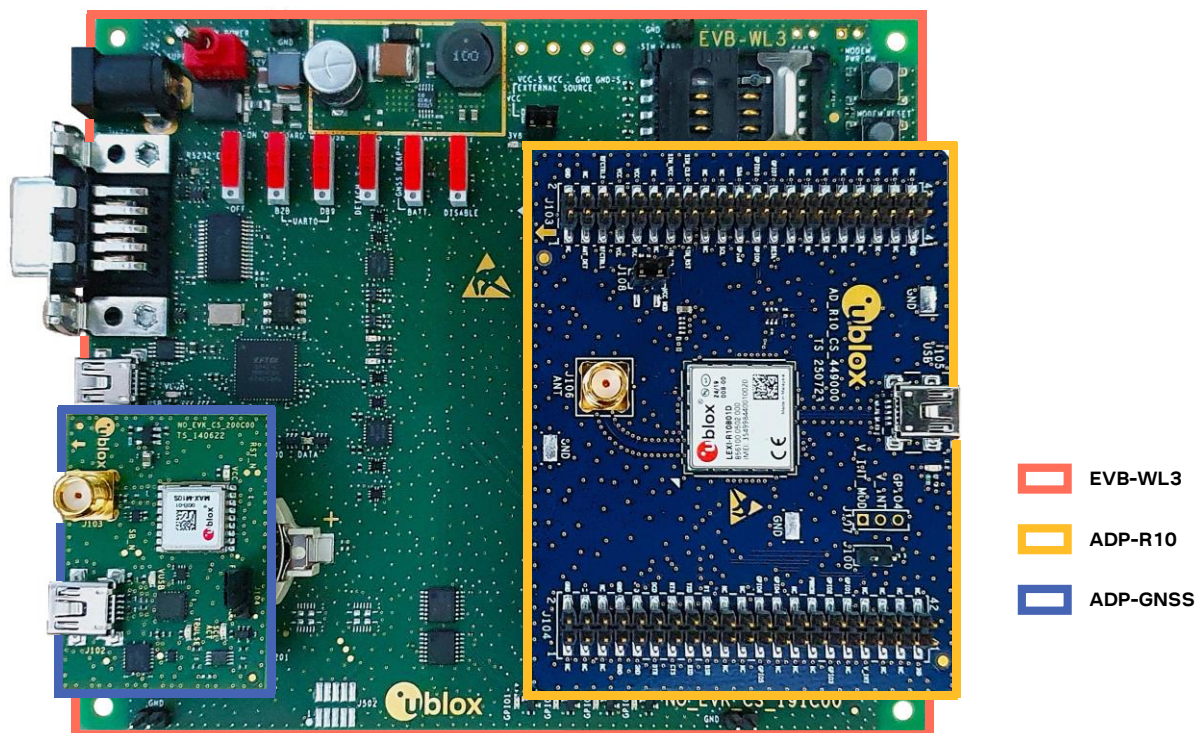
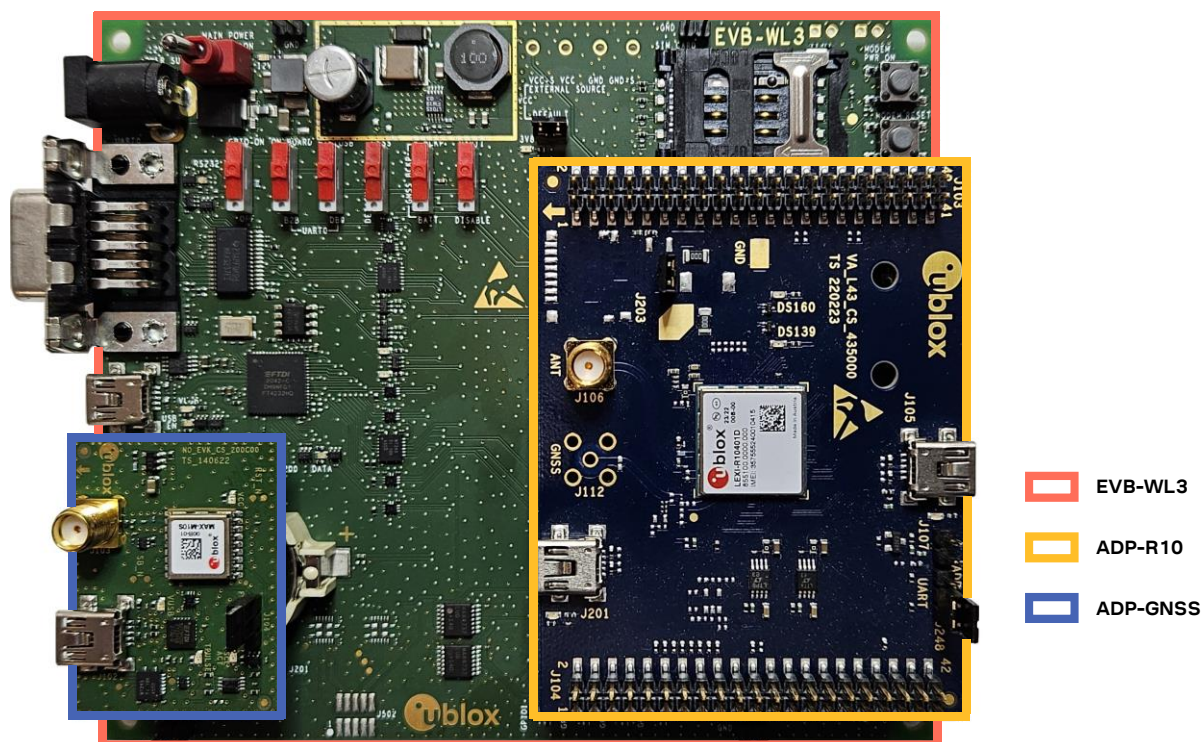

Figure 1: EVK-R10 evaluation kit “new” model, formed by three boards, with latest “new” version of the ADP-R10 board
Figure 2: EVK-R10 evaluation kit “old” model, formed by three boards, with previous “old” version of the ADP-R10 board
As shown in Figure 1 and in Figure 2, the EVK-R10 evaluation kits are formed by three boards:
- The latest “new” version of the cellular adapter board, marked “AD\_R10\_CS\_449000”, illustrated in Figure 1, and described in sections 2.1.1 and 4.1. Any of the EVK-R10 evaluation kits including this “new” version of cellular adapter board are herein simply referred as “EVK-R10 new model”.
- The previous “old” version of the cellular adapter board, marked “VA\_L43\_CS\_435000”, illustrated in Figure 2, and described in sections 2.1.2 and 4.2. Any of the EVK-R10 evaluation kits including this “old” version of cellular adapter board are herein simply referred as “EVK-R10 old model”.